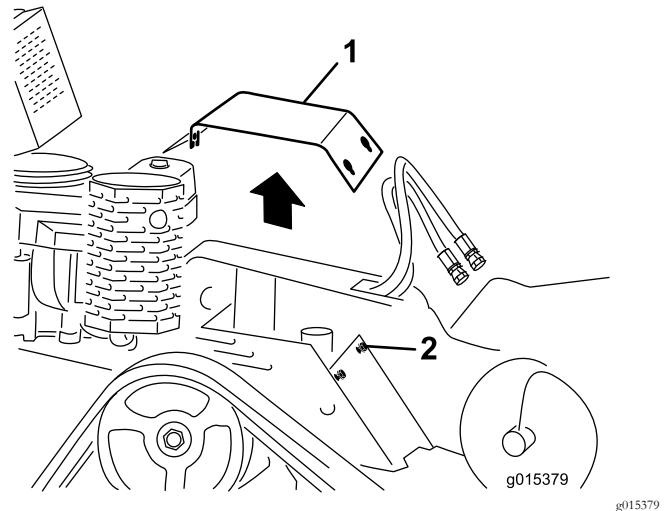

Figure 8
- A. Loosen the 1 rear bolt (3/8 x 1 inch) and 2 forward bolts (3/8 x 1-1/2 inches) that secure the top-cover plate to the machine and remove the cover plate (Figure 8).
- E. Assemble the top-cover plate onto the machine (Figure 8) and torque the 3 bolts (3/8 inch diameter) to 38 to 45 N m (27 to 33 ft-lb).